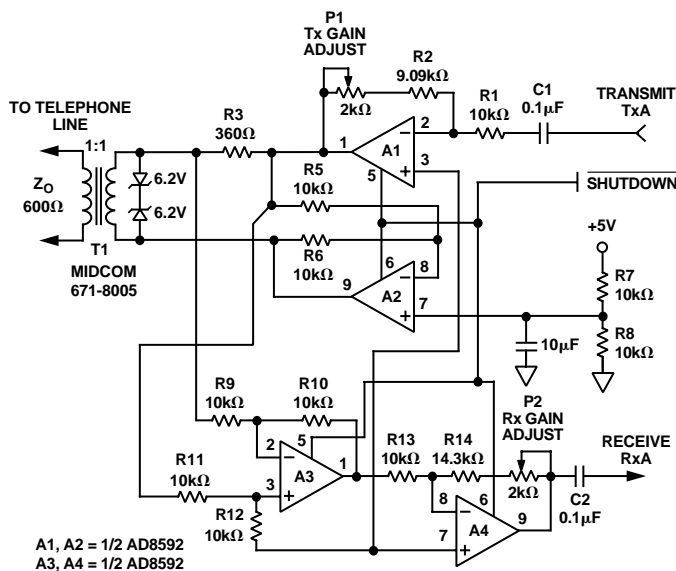

Figure 38. A Single Supply Direct Access Arrangement for PCMCIA Modems
Figure 38 illustrates a +5 V transmit/receive telephone line interface for 600  $\Omega$  systems. It allows full duplex transmission of signals on a transformer-coupled 600  $\Omega$  line in a differential manner. Amplifier A1 provides gain that can be adjusted to meet the modem output drive requirements. Both A1 and A2 are configured to apply the largest possible signal on a single supply to the transformer. Because of the AD8594's high output current drive and low dropout voltages, the largest signal available on a single +5 V supply is approximately 4.5 V p-p into a 600  $\Omega$  transmission system. Amplifier A3 is configured as a difference amplifier for two reasons: (1) It prevents the transmit signal from interfering with the receive signal and (2) it extracts the receive signal from the transmission line for amplification by A4. Amplifier A4's gain can be adjusted in the same manner as A1's to meet the modem's input signal requirements. Standard resistor values permit the use of SIP (Single In-line Package) format resistor arrays. Couple this with the AD8594 16-lead TSSOP or SOIC footprint, and this circuit offers a compact, cost effective solution.